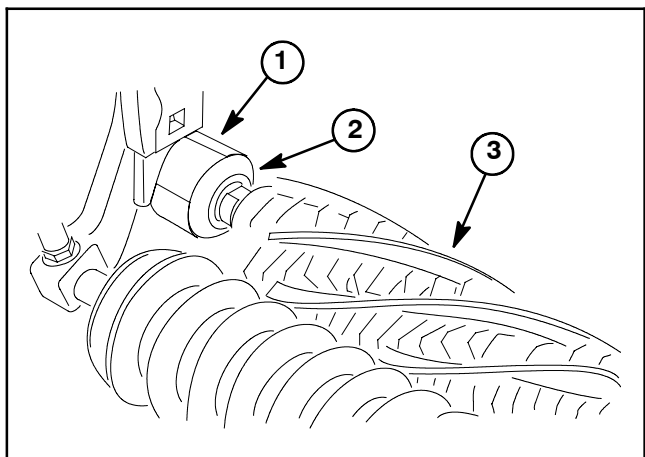

Figure 13
7. Check that excluder seals just touch groomer plate assembly (Fig. 13). Reposition excluder seals on groomer shaft if needed. Excluder seal ID should be located on groomer shaft surface that is recessed slightly.